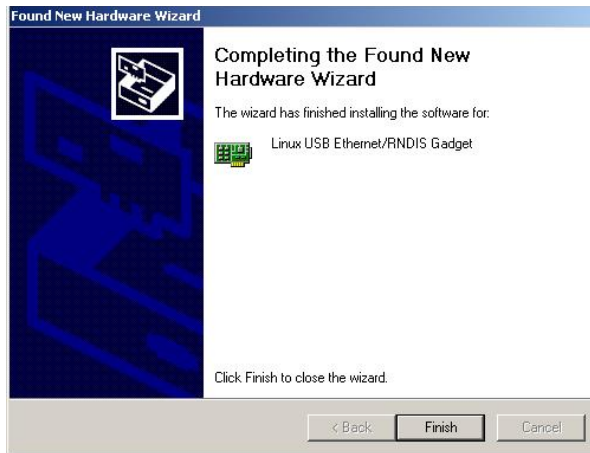

FIG. 26 Completing the Found New Hardware Wizard
10. Once the system finds the driver, it displays its choice (FIG. 26). Click **Finish** to complete the driver installation.